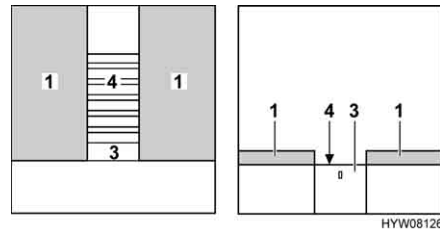

Fig. 87 During conversion
- Pull out slatted frame (Fig. 87,4) completely. To do this, pull on the extension (Fig. 87,3).